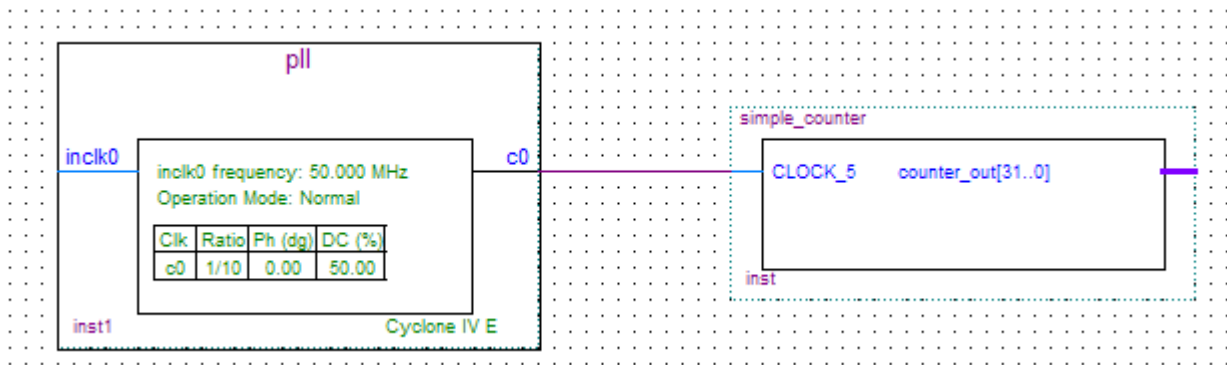

Figure 6-27 Draw a Bus Line connect pll c0 port to simple_counter CLOCK_5 port
13. Click and drag a bus line from the c0 output to the simple_counter clock input. This action ties the pll output to the simple_counter input (see Figure 6-27).